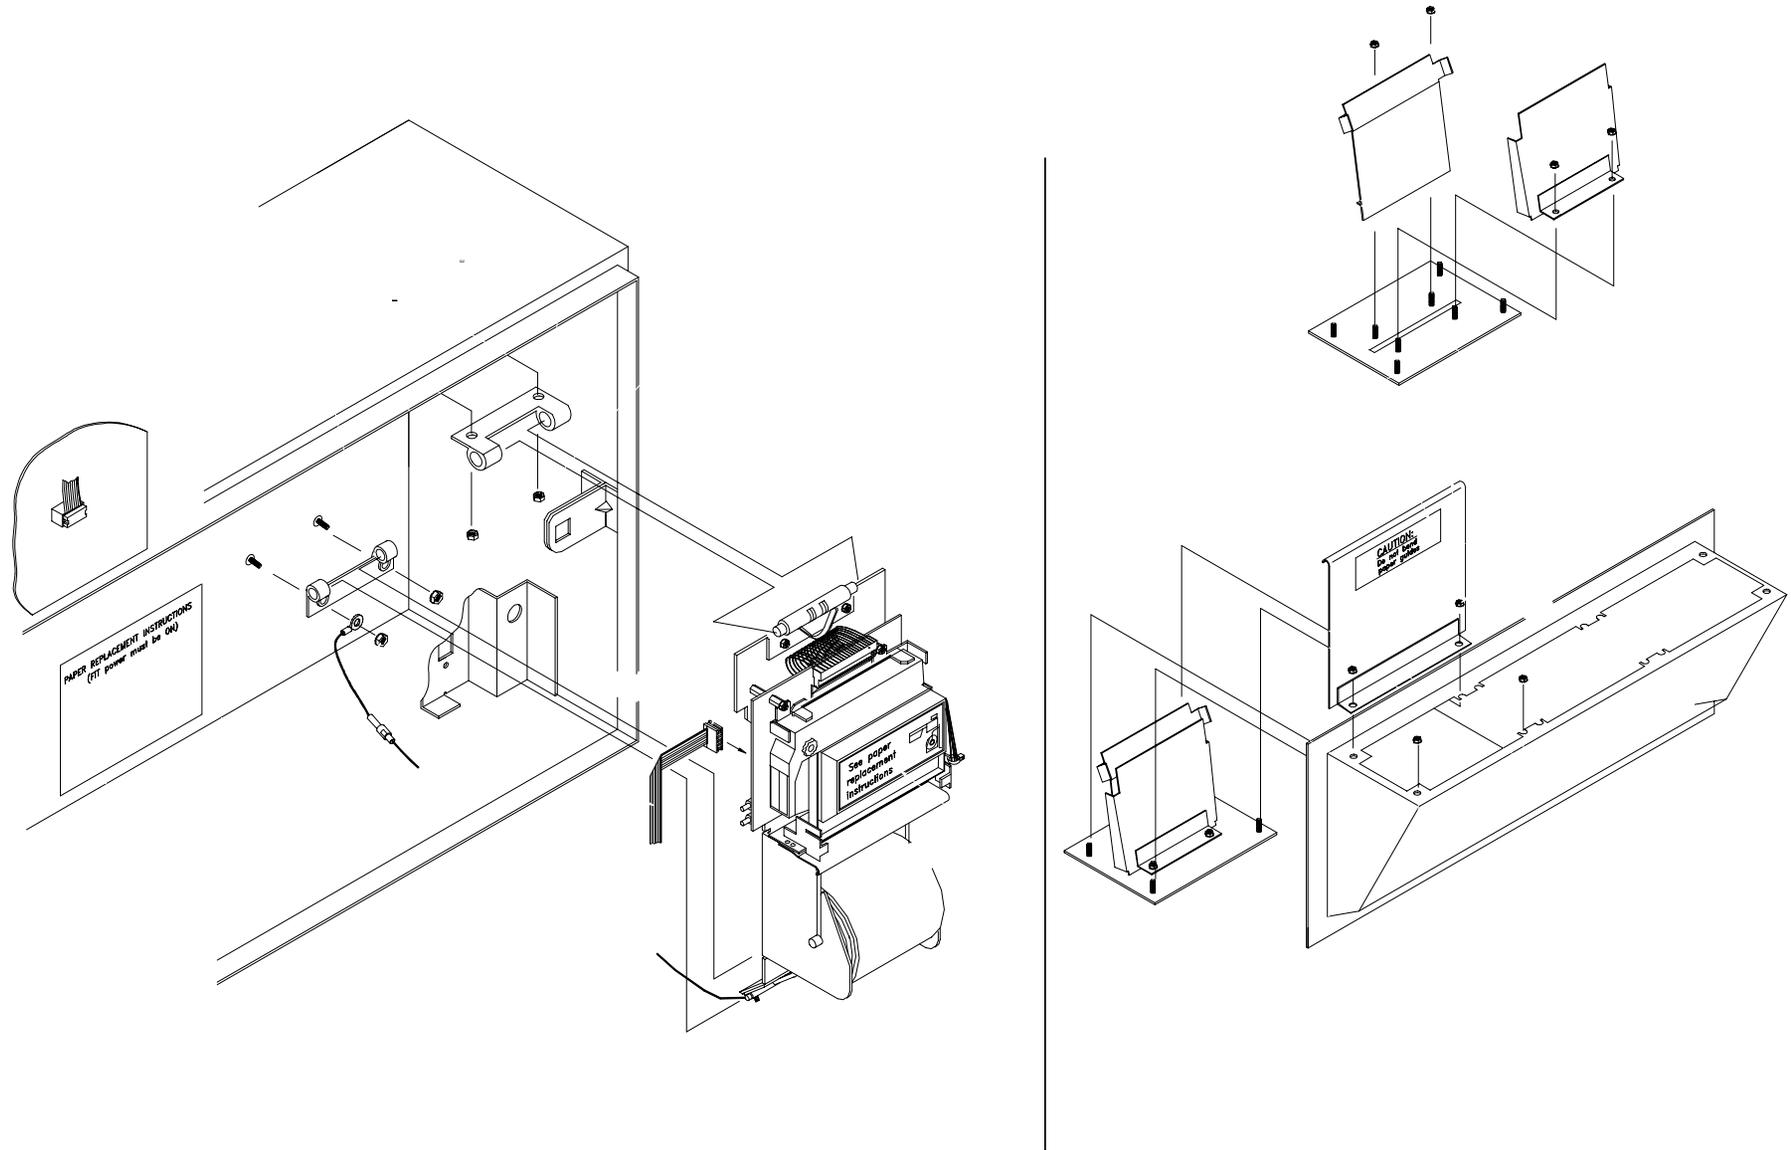

Figure 2 - Receipt Printer Installation
See Figure 2 on the following page. The optional receipt printer is attached inside the FIT cabinet with two quick release hinges. To install the printer, do the following:
2. Refer to Figure 2. Place the top hinge on the two studs in the FIT enclosure and secure with the two supplied #8-32 keps nuts. Tighten the nuts to 4 - 18 inch-pounds.
7. The receipt guides and cutter retainer mount to the door pocket. Remove and discard the blank adaptor plate from the pocket. Mount the guides to the new slotted adaptor plate as shown in Figure 2.